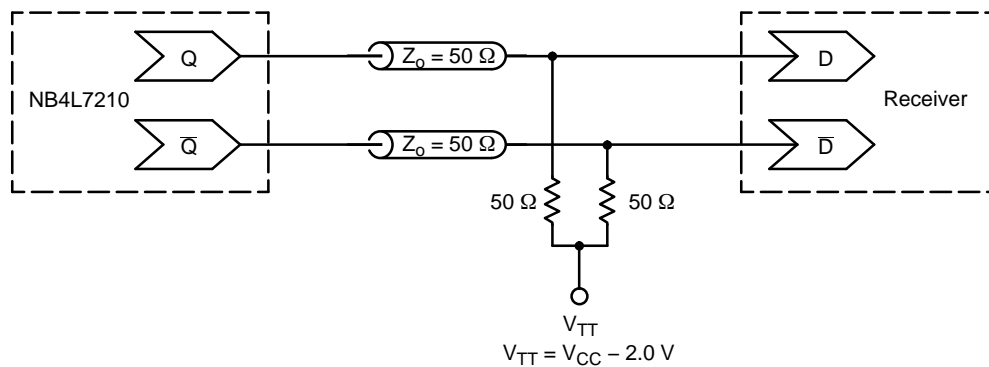

Figure 16. Typical Termination for Output Driver and Device Evaluation
- Input and Output parameters vary 1:1 with  $V_{CC}$ . Outputs loaded with  $50\ \Omega$  to  $V_{CC} - 2.0\text{ V}$  (See Figure 16) except SDATAOUT.
6. Measured by forcing  $V_{INPP}$  (Typ 750 mVPP) from a 50% duty cycle clock source.  $Q/\overline{Q}$  Outputs loaded with 50  $\Omega$  to  $V_{CC} - 2.0\text{ V}$  (See Figure 16). SCLK, SDATA and SLOAD at LOW SDATAOUT loaded 20 k $\Omega$  and 15 pF to GND.